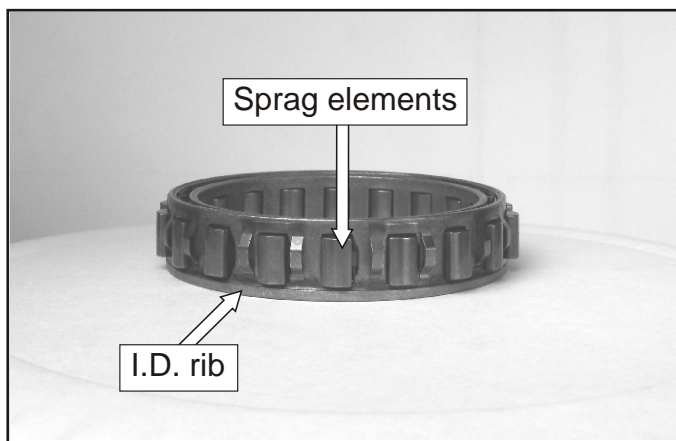
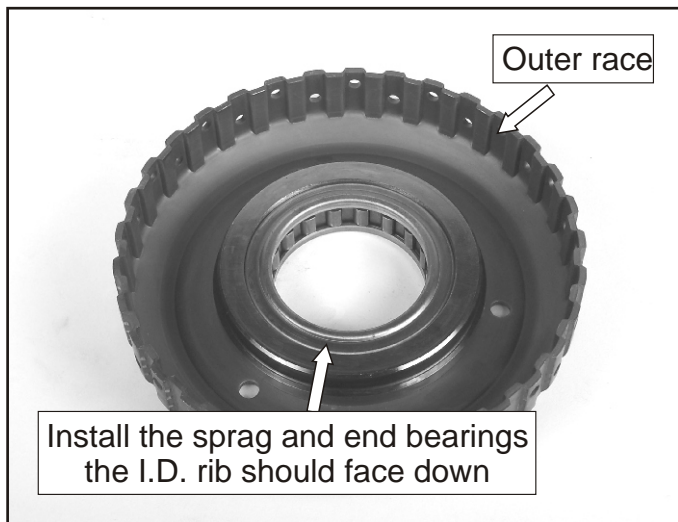

Figure 131
Figure 133
- 78. Inspect the sprag elements for wear as shown in Figure 131. Replace as necessary.
80. Assemble the sprag, I.D. rib facing down, and end bearings into the outer race, as shown in Figure 133. Use the illustration in Figure 131 to identify the I.D. rib.